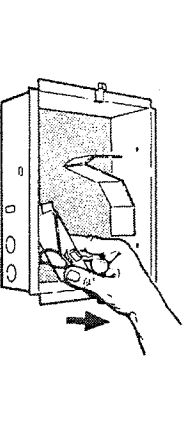

FIG. 3
2. Slide the wiring cover out of housing. (FIG. 3)
2. Saque la cubierta del cableado de la caja. (FIG. 3)